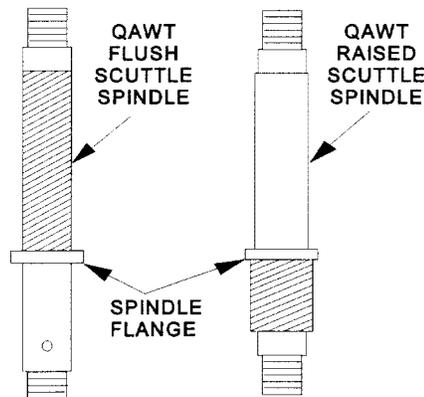

Figure 2-12. Quick-Acting Watertight Scuttle Spindles
- d. With the scuttle completely dogged down tight, grasp the handwheel. Play in the handwheel indicates that the wheel nut is loose or the square spindle hole in the handwheel is rounded out. Tighten the nut or replace the handwheel if the square hole is rounded out. If the handwheel nuts are tight and the handwheel can be pulled up and down, the flange formed into the spindle has broken free and the spindle must be replaced. This problem is caused by over tightening (dogging down) the scuttle. See figure 2-12.